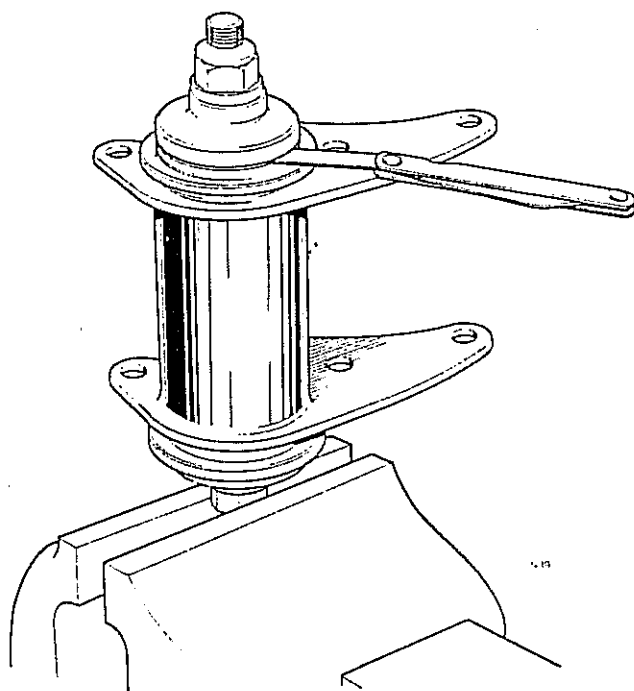
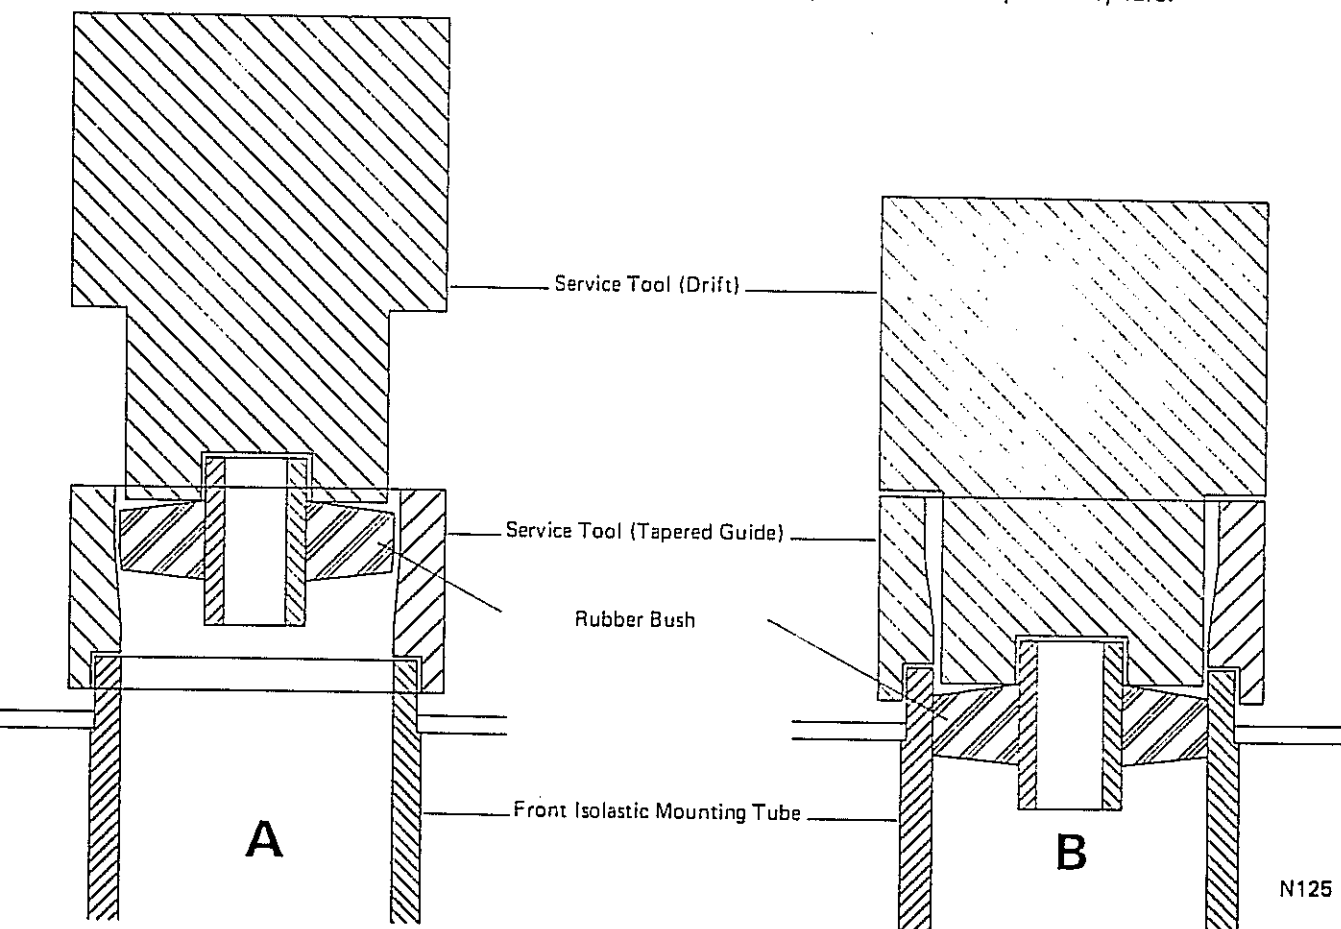

Fig. F13 Method 2. Holding front mounting in a vice for checking.
Fig. F14 Using service tool 063971 to insert front isolastic rubber bushes
- 5 Reassemble the gaiter, spacing collar and shims after attention, in the order shown in *Fig. F14*. Note that the reassembly procedure is a reversal of that used in dismantling but take care to fit the cap with shims well over the actual mounting to allow room for the gaiter, spacing washer and plastic washer to be fitted together.
- 8 Assemble the front mounting less shims in a plain jawed vice. The order of assembly is shown in *Fig. F14* and the method of holding the mounting in *Fig. F13*.
- 15 Fit the right side cap shims, gaiter etc. first (the order of assembly is shown in Fig. F14) and ensure that the lip of the gaiter fits well over the mounting.
problems. Removal does not necessitate the use of special tools though reassembly requires the use of special tool 063971. Proceed to remove as below but refer to Fig. F14 for the positions of bushes and buffers.